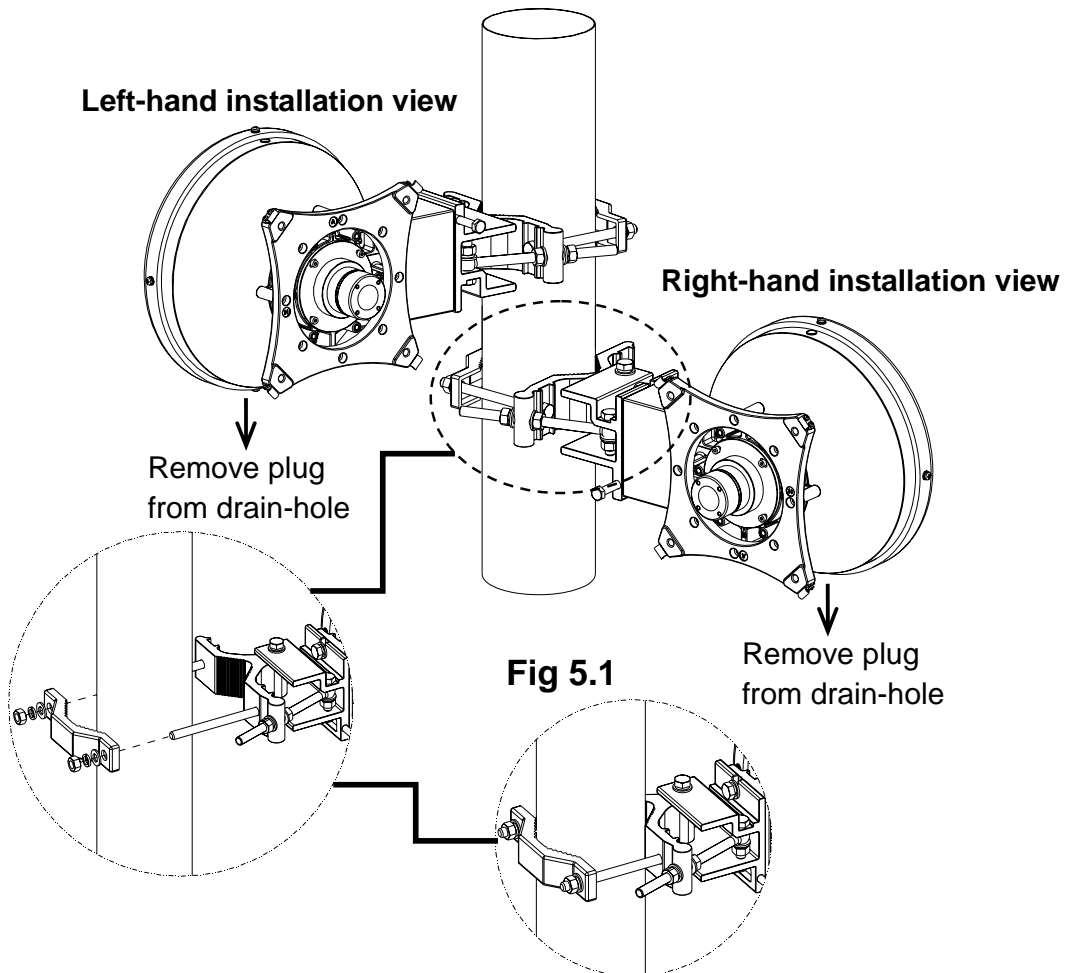

Fig 5.1
The antenna is suitable for mounting on the right hand or left hand side of the pole. The diagram in Fig 5.1 shows the mounting details for left hand and right hand use.
- 5.1 Attach antenna to pole using clamps (shown in Fig 5.1).